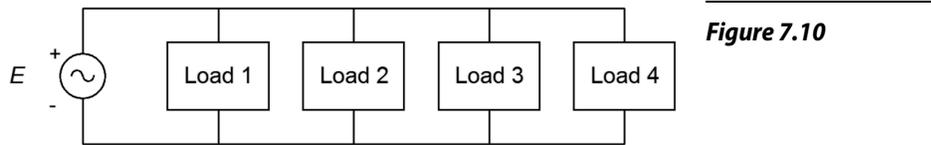

Figure 7.10
29. For the system shown in Figure 7.10,  $E$  is 240 V. Load 1 is 1.2 kW resistive heating, load 2 is 400 W resistive lighting, load 3 is a 0.5 HP motor that is 80% efficient with a 0.7 lagging power factor, and load 4 is a 1 HP motor that is 85% efficient with a 0.8 lagging power factor. For the system, determine the apparent power delivered, the source current, the real power, the reactive power and the power factor.